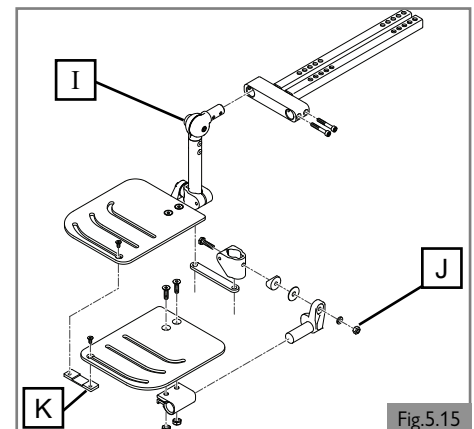

Fig.5.15
- a. Remove the hardware (G) from the hanger frame tube.
- b. Move the footrest extension tube (H) up or down to set the correct height, and line up the adjusted holes.
- d. Re-tighten all hardware (G).
5.10 Angle adjustable center mount footrest (Fig 5.15)